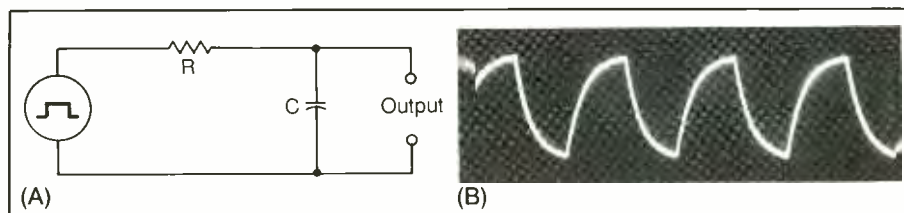
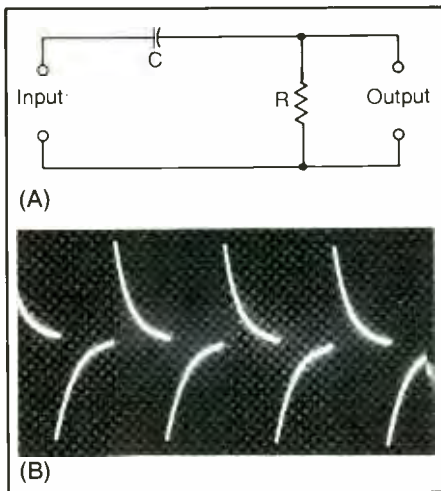
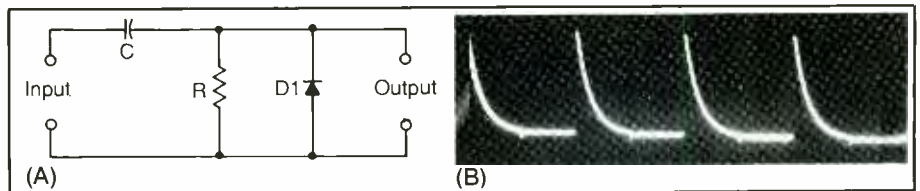
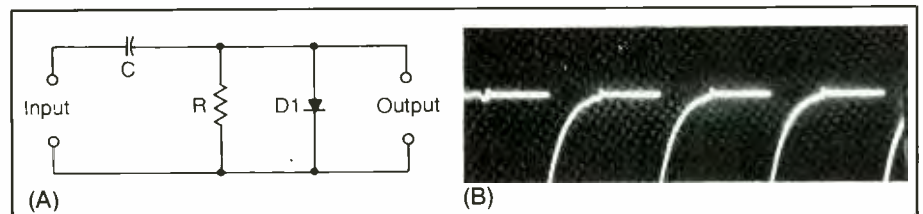

Fig. 2. An RC low-pass filter or integrator (A) and the output signal that occurs when a square wave is applied to its input (B).
Fig. 3. An RC high-pass filter or differentiator (A) and the output that occurs when a square wave is applied to its input (B).
Fig. 5. A diode connected across output of a differentiator circuit to clip negative peaks (A) and output signal that results from its inclusion in circuit (B).
Fig. 6. A diode connected across output of a differentiator circuit to clip positive peaks (A) and output signal that results from its inclusion in circuit (B).
plied to the input of an RC low-pass filter, or "integrator," network like that shown in Fig. 2(A), the output signal appears as shown in Fig. 2(B). Note here that the amplitude of the output signal is somewhat reduced compared to that of the original input signal, the result of losses (attenuation) in the RC network. Also note that the fast rise- and fall-time edges of the input signal have become curved in the output waveform so that it appears much like a capacitor charge/discharge waveform. This wave shape results from rolling off the high frequencies present in the square wave.
Figure 3(A) illustrates an RC high-pass filter, also referred to as a “differentiator.” In this circuit, the elements are the same as those used in the low-pass filter arrangement shown in Fig. 2(A). However, their respective roles are reversed. In this case, the high frequencies are not attenuated as much as are the low frequencies. Therefore, the square wave becomes tilted in favor of the high frequencies. Put another way, the
output waveform is “peaked up,” as shown in Fig. 3(B), which shows the output waveform with a characteristically fast rise time and an exponentially decaying fall time. This waveform, called a “differentiating square wave,” is used for applications such as counting or triggering other circuits.
Figures 5(A) and 6(A) show a “clamping diode” connected across the output of the differentiating RC network shown in Fig. 3(A). In the case of Fig. 5(A), the diode is connected such that it is reverse biased by positive output voltage excursions
and is forward biased by negative output excursions. The result is the waveform shown in Fig. 5(B). Here we see the same type of differentiation as before on positive peaks, but now the negative peak of the output waveform has been clipped.
If you are eagle-eyed, you can see a small "pip" on the Fig. 5(B) trace at the point where each negative excursion would have begun if the signal had not been clipped. This pip is the result of the junction potential of the diode. The experiment to make these photos used a network containing a 1N60 germanium diode, which had a 0.2- to 0.3-volt junction potential,
which is the approximate amplitude of the pips shown in both Fig. 5(B) and Fig. 6(B).
Exactly the opposite situation is illustrated in Fig. 6(B). In this case, the Fig. 6(A) circuit was arranged to clamp the positive-going spike so that only the negative spike remains. Otherwise, operation of the Fig. 5(A) circuit is identical to that of the Fig. 6(A) circuit.